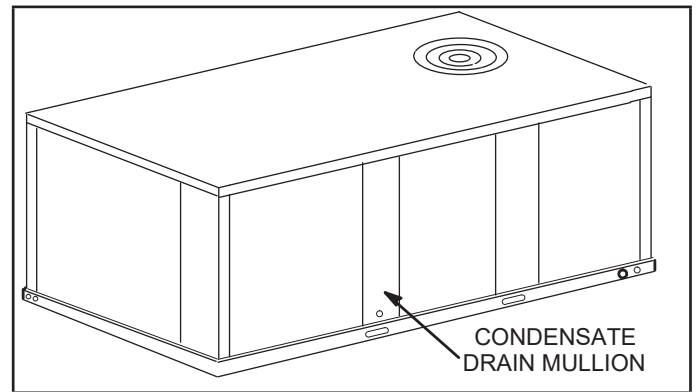

FIGURE 9
- 1 - Remove the condensate drain mullion. See FIGURE 9. Remove the two panels on each side of the mullion.
- 1 - Remove the condensate drain mullion. See FIGURE 9.